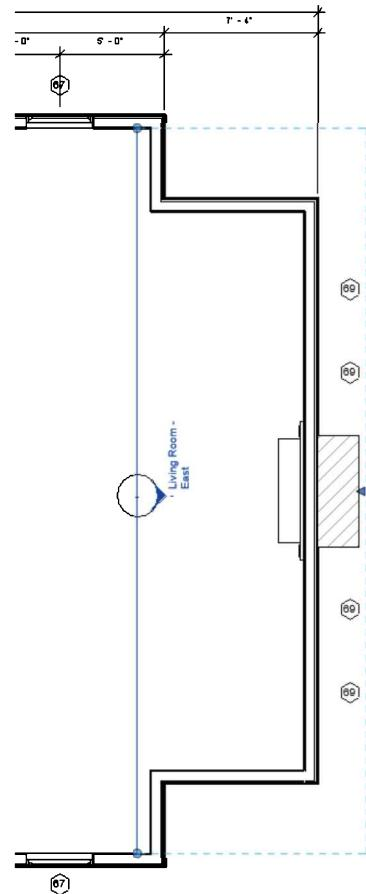

FIGURE 10-3.3 Elevation tag selected
8. Pick the “pointing” portion of the elevation tag, so you see the view options (Figure 10-3.3).